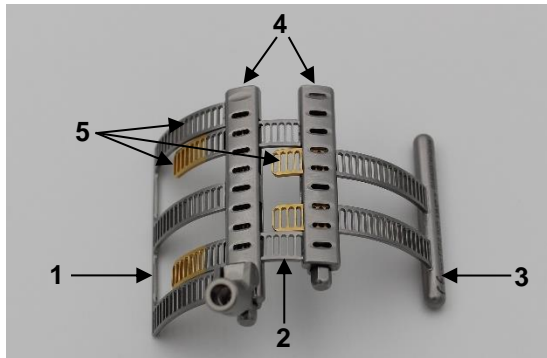

Fig. 16a: Treede Maxposition Blade
Figure 16a shows the Treede Maxposition Blade, which is made up of three elements of different sizes. It consists of a base element (1), a primary element (2) and a secondary element (3) (Fig. 16b). A suitable screwdriver, e.g. the LMT-4L cardan screwdriver (see section 8) *Required accessories*, is required for assembly/disassembly. The suitable screwdriver is used to adjust the fan blades (5) via the gear axis, which is located inside the box module (4).